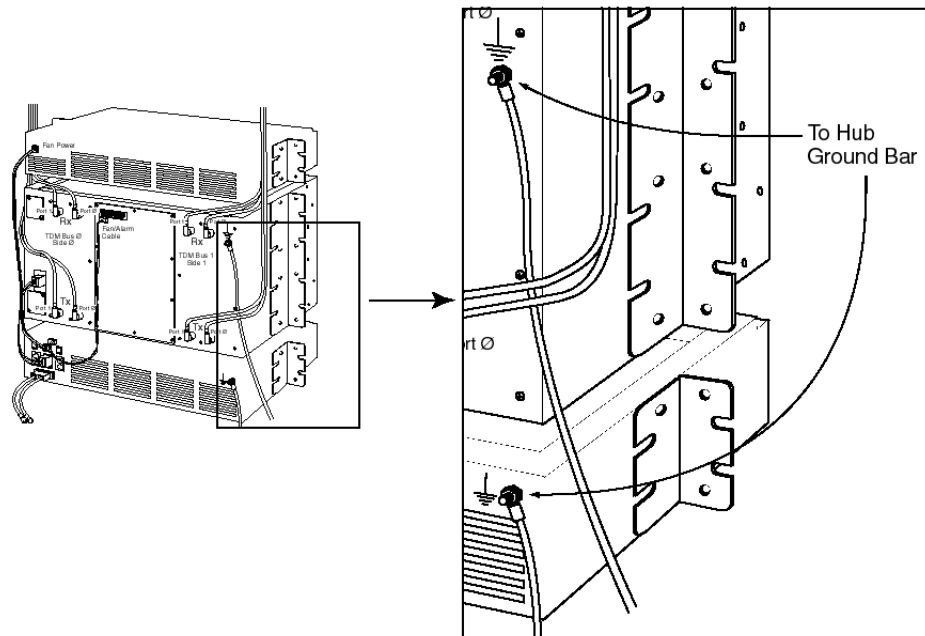

Figure 26 Hub IDU Grounding
- 1 Attach a lug to one end of a 6AWG green stranded wire and secure it to back of the hub IDU at the stud located at the top right of hub IDU (see Figure 26).